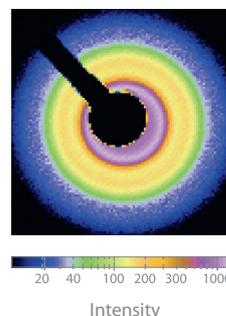

Fig. 1 - 2D SAXS pattern of  $SiO_2$  powder with beamstop offcentered.
The scattering curves collected with the Very High Resolution (VHR) and High Resolution (HR) settings demonstrate the capacity to achieve low  $q$  values, as shown on Figure 2. Thanks to the Scatterless 2.0 technology, the beam is extremely clean at the edge of the beamstop. For these reasons, such ultimate  $q_{min}$  values down to  $0.025 \text{ nm}^{-1}$  are enabled by shifting the beamstop, as depicted in the 2D pattern (Figure 1).